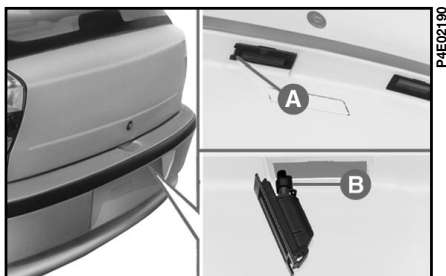

fig. 27
NUMBER PLATE LIGHT fig. 27
- 1) Remove the bulb holder by levering with a screwdriver in the point **A**-fig. 27.